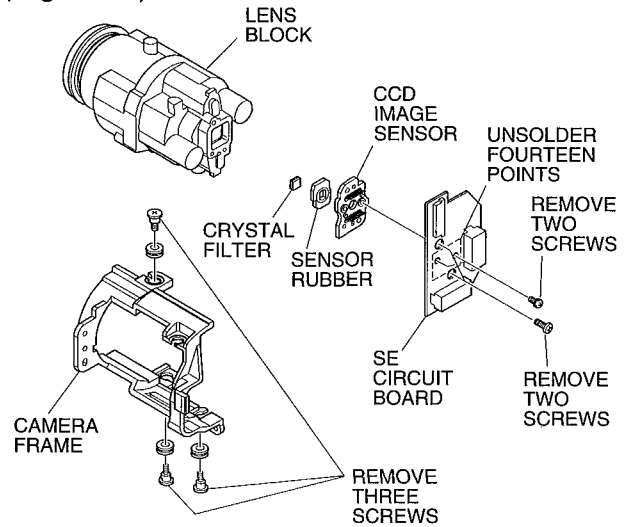

Fig. 2-11
2.10 Camera Frame, SE Circuit Board, Lens Block (Fig. 2-11)